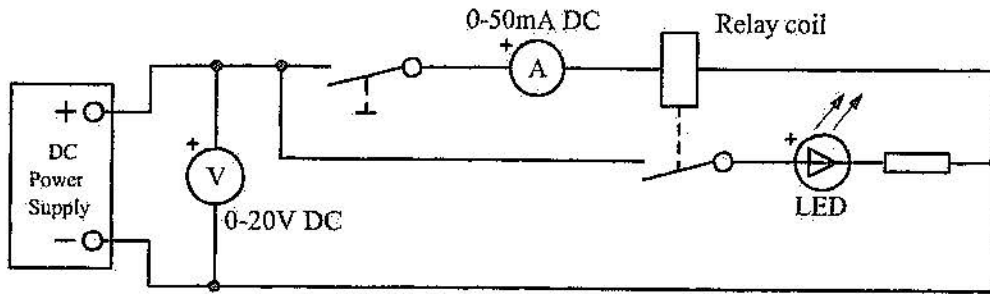

Figure 1
2. Using the relay panel connect the circuit as shown in figure 1.